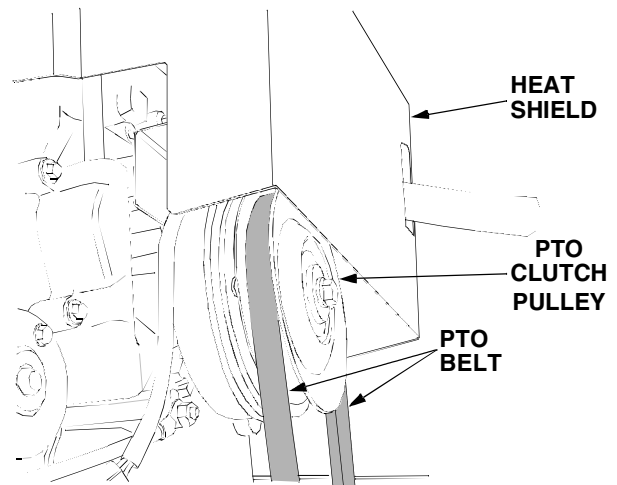

Figure 6-13
5. Open the tractor hood. From the front of the tractor, lift the two sides of the belt up and maneuver the PTO belt over and off the front of the PTO clutch pulley on the front of the engine. Lower the belt down between the front of the PTO pulley and the engine heat shield (See Figure 6-13).